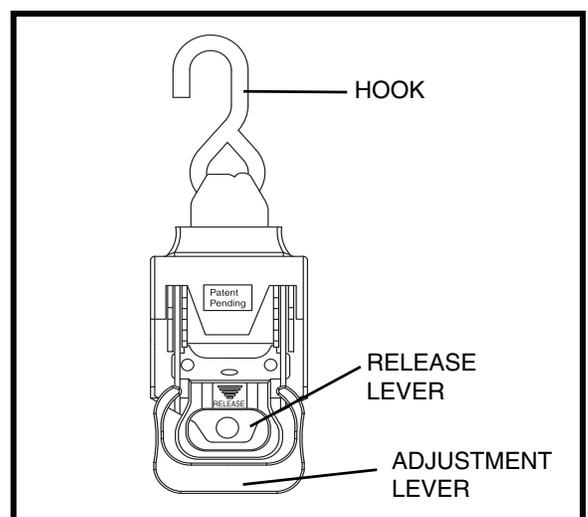

Figure 14. Retractable Tie-down Strap
3. Secure the mobility device to the platform using either the retractable tie-down straps (see figure 14) for power chairs or the automatic lock-down arm for scooters.
- Squeeze together the release and adjustment levers on the retractable tie-down strap and simultaneously bring both levers forward to a 90-degree position until they “click” into place. See figures 14 and 15. This will unlock the tie-down strap.
- Once each strap is secured in the proper position, squeeze together the release and adjustment levers and simultaneously bring both levers rearward to their original positions. See figures 14 and 17. This will lock the tie-down strap.